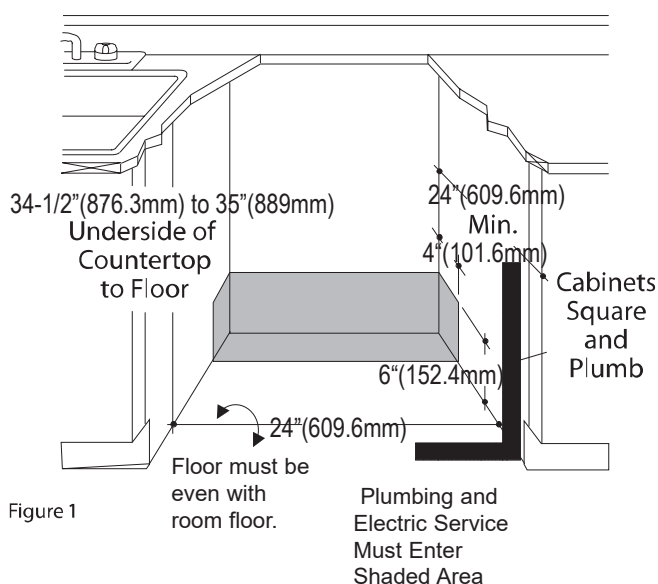

Figure 1
- Drill a 1-1/2" (38.1mm) dia. hole in the cabinet wall within the Fig. 1 for drain hose connection. The hole should be smooth with no sharp edges.